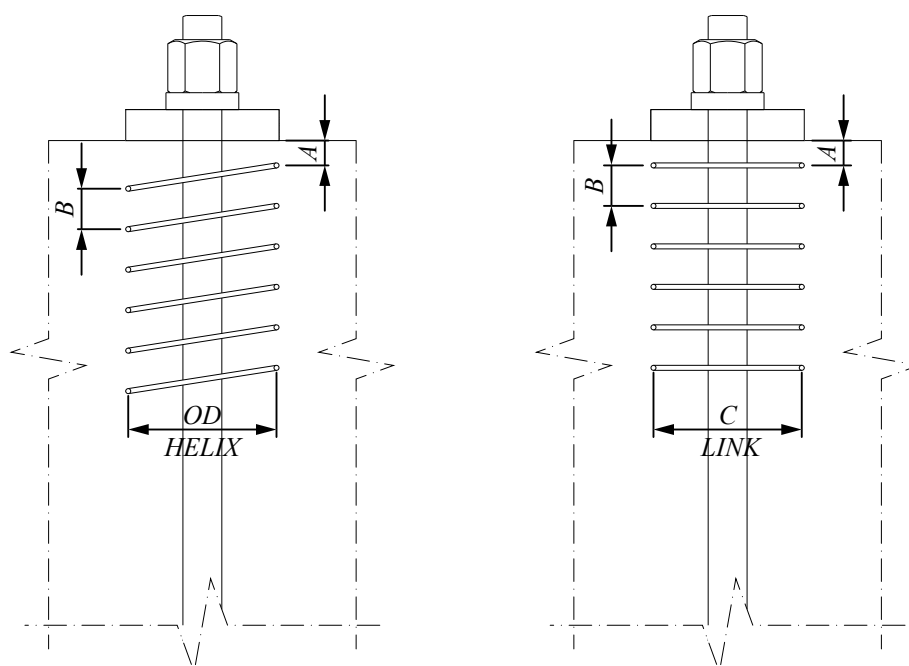

Figure 20. Additional reinforcement detail.
*Table 8* and *Figure 20* presents the additional reinforcement that should accompany each anchor plate option.